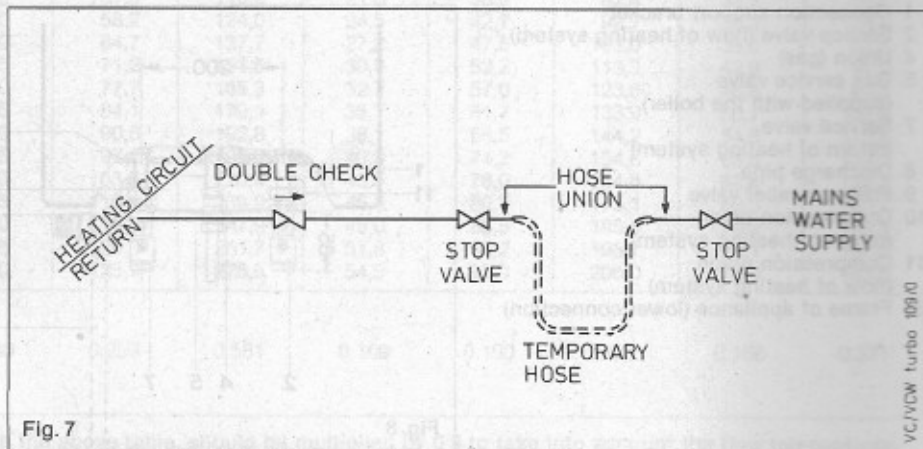

Fig. 7
5.12 Filling and make up (fig. 7)